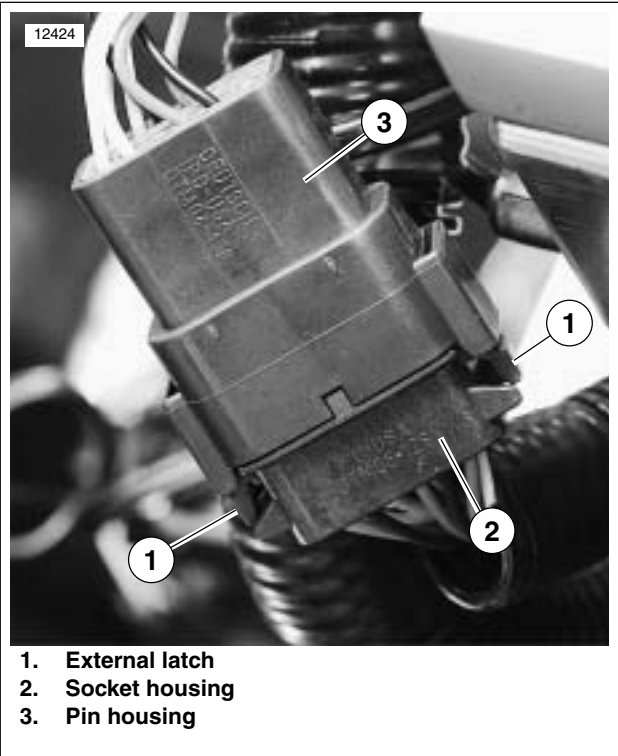

Figure B-8. Deutsch Electrical Connector
See Figure B-8. To separate the connector halves, depress the external latch(es) (1) on the socket housing (2) while rocking the pin (3) and socket housings.